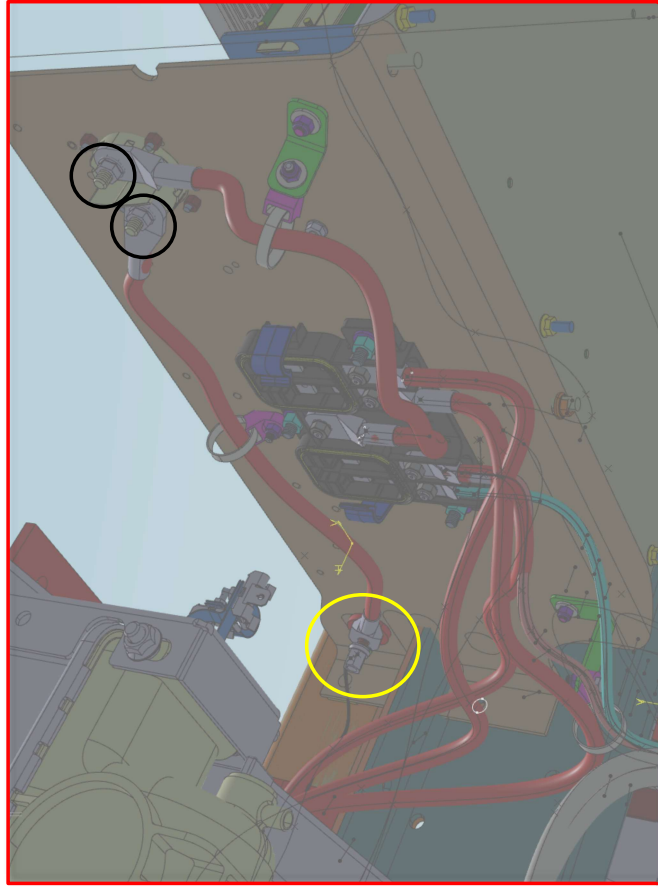

Figure 8
2. Service locations highlighted in Figures 8 - 12. Any connections/components found to have any thermal stress MUST be replaced.